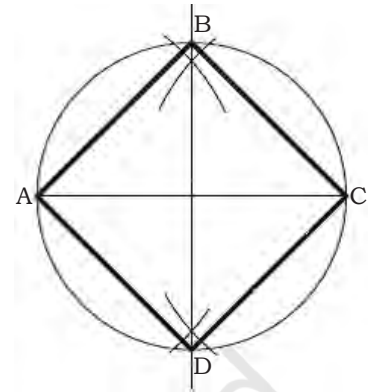

Fig. 1.19: Drawing a square
- Set the compass to radius OA (OC) and with the needle pointing at the centre O, draw a circle so as to cut the bisecting line at point B and D, respectively, as shown in Fig. 1.19.